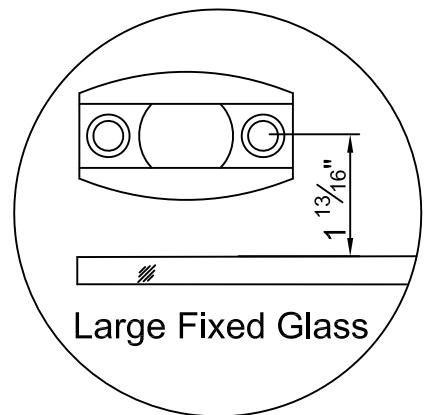

Fig. 29
29. Position the Sliding Door Track Divider (8) into position as seen in Fig.29 and mark the 2 shower base hole positions.
Note: In Fig.29 the hole locations for attaching sliding door track divider should be 1 13/16" from edge of Large Fixed Glass (3).
See Fig.29 for details.